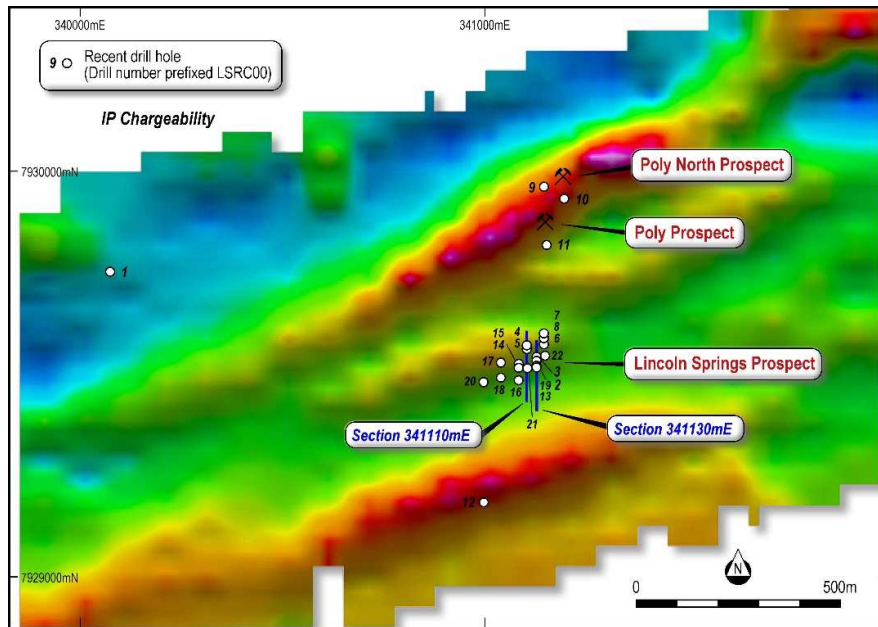

Figure 2: Drill hole location plan with IP chargeability as background, Lincoln Springs.
Reverse Circulation (RC) drilling at the Lincoln Springs Project has been completed and all 4m composite assay results have been received. The program consisted of twenty two (22) drill holes for a total of 2,083 metres (Table 1; Figures 2 & 3). The drilling program tested beneath and along strike of the historic copper workings at the Lincoln Springs Prospect, tested copper-cobalt soil anomalies and also tested Induced Polarisation (IP) geophysical targets.